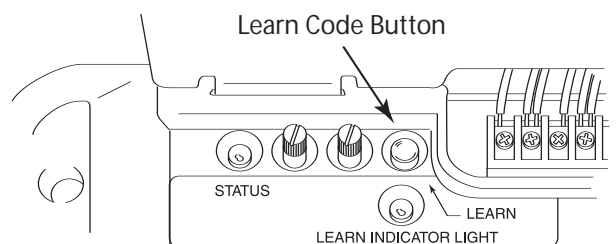

Figure 38 Learn Code Button and Indicator Light
- Locate Learn Button and Learn Indicator Light near Terminal Block on Power Head (**Figure 38**).
- See Status Light on Figure 38, page 22)